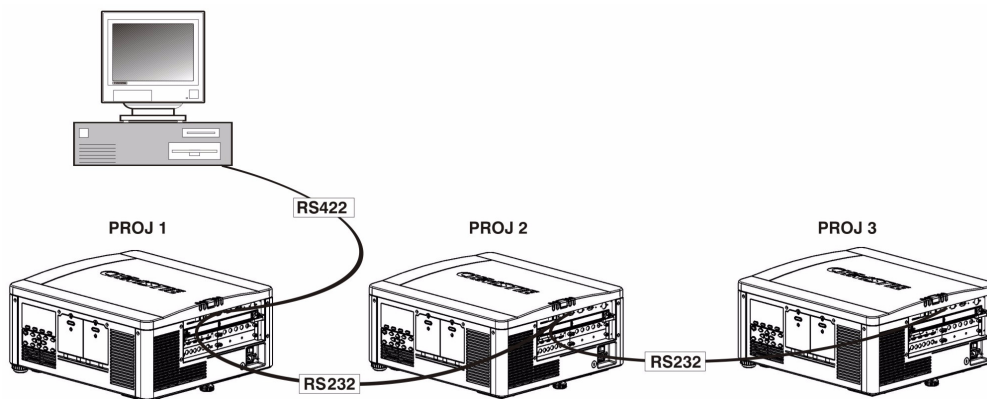

FIGURE 2-21 - MIXED NETWORK
2. Chain the projectors together by connecting an **RS232 OUT** (Null Cable) of the first projector (already connected to the computer/controller through the **RS422** port straight thru to an **RS232 IN** on the next projector in the chains). Continue connecting projectors in this manner until you’ve reached the last projector in the chain, so that only the last projector has one unused port **RS232 OUT**, see Figure 2-21 - Mixed Network.